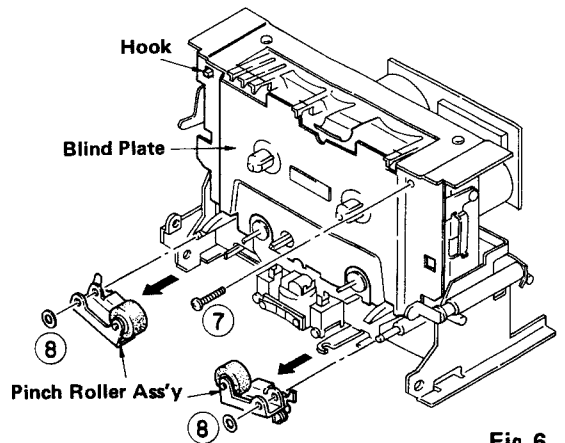

Fig. 6
- a. Remove one screw of (7) and Hook of one place. Then, Blind Plate can be taken off.
- b. If you will remove E-ring (8) of Fig. 6, Pinch Roller Ass'y is taken off.